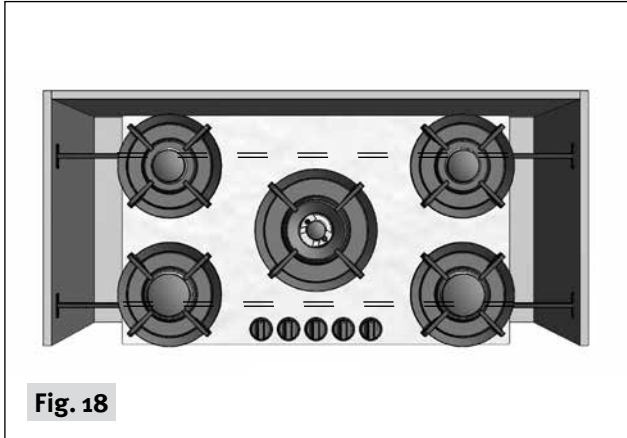

Fig. 18
- 4a. The PITT® cooking module should always be fully supported with the PITT® cooking support set to prevent bending of the kitchen worktop (**fig. 18 and 19**).